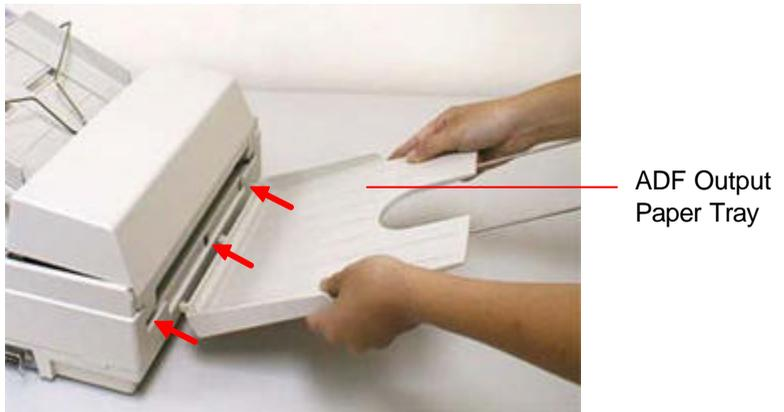

Figure 2-5 Install the ADF output paper rack
1. Hold the output paper rack some 30 degrees as shown in Figure 2-5.